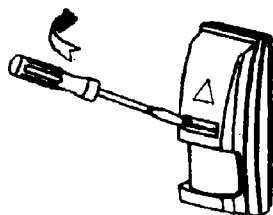
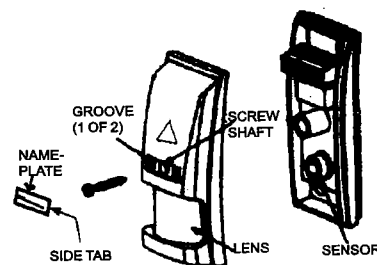

Figure 7. Name-Plate Removal
Figure 8. Disassembly
Insert a small screwdriver into one of the narrow gaps at the sides of the name plate (see Fig. 7). Lever carefully sideways, until the name plate arches slightly out and snaps free (do not let it fly off). Retain the name plate and loosen the screw within the inner shaft (see Fig. 8). Remove the cover carefully, to avoid dropping the screw.
4. Remove the front cover as Figure 7.